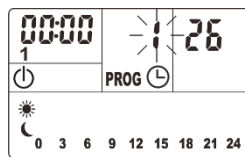

Fig.3
3. Press  button twice, the "1" will flash on the screen. (Fig.3)